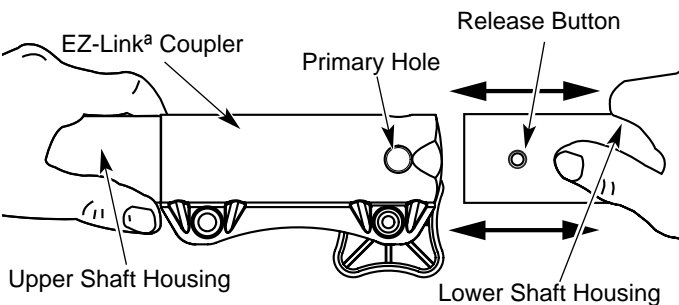

Fig. 7
3. While firmly holding the upper shaft housing, pull the cutting attachment or add-on straight out of the EZ-Linka coupler (Fig. 7).
2. While firmly holding the add-on, push it straight into the EZ-Linka coupler (Fig. 7).
<p>CAUTION: Lock the release button in the primary hole (Fig. 7) and securely tighten the knob before operating this unit.</p>